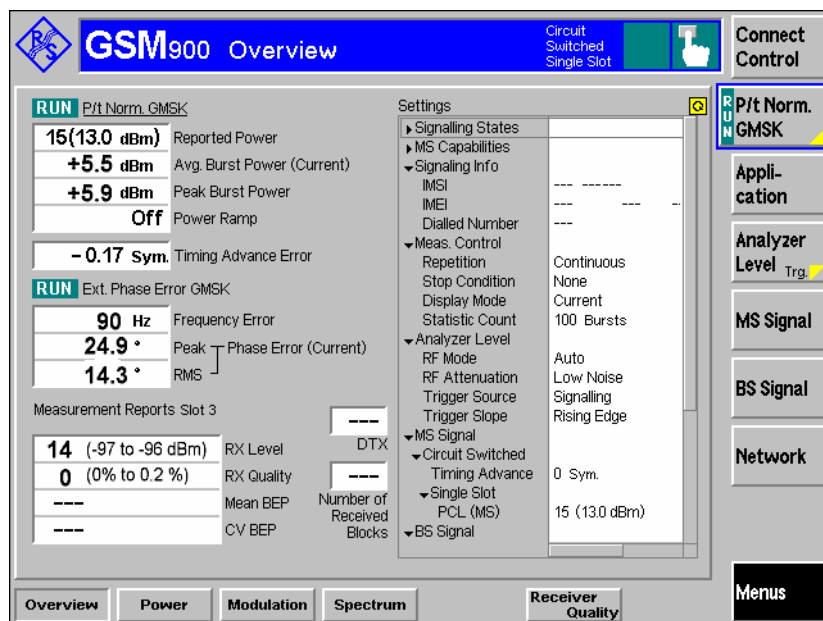

Fig. 4 GSM900 Signalling: Overview menu
3. To determine the output coupling factor of your proven mobile phone, subtract the reported *RX Level* at the MS from the output level of the CMU (*BS Signal* – *TCH Level* – *Used TS*). In the example of Fig. 4 above, assuming a *Used TS* level of –90 dBm, the output coupling factor equals to (96.5 – 90.0) dB = 6.5 dB.
4. To determine the input coupling factor of your proven mobile phone, subtract the measured *Avg. Burst Power (Current)* from the *Reported Power* of the MS. In the example of Fig. 4 above, the input coupling factor equals to  $(13.0 - 5.5) \text{ dB} = 6.5 \text{ dB}$ .